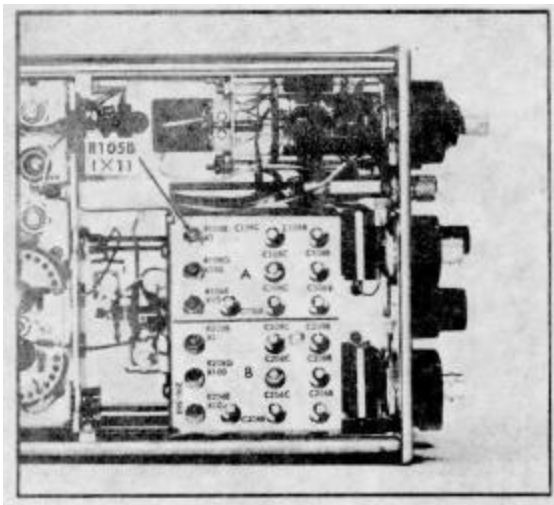

Fig. 5-37. Location of step 28g adjustment.
g. Adjust R105B (see Fig. 5-37) to obtain a null reading on the non-loading voltmeter.
**29. Adjust R206E Input B 10X Attenuator** ❷